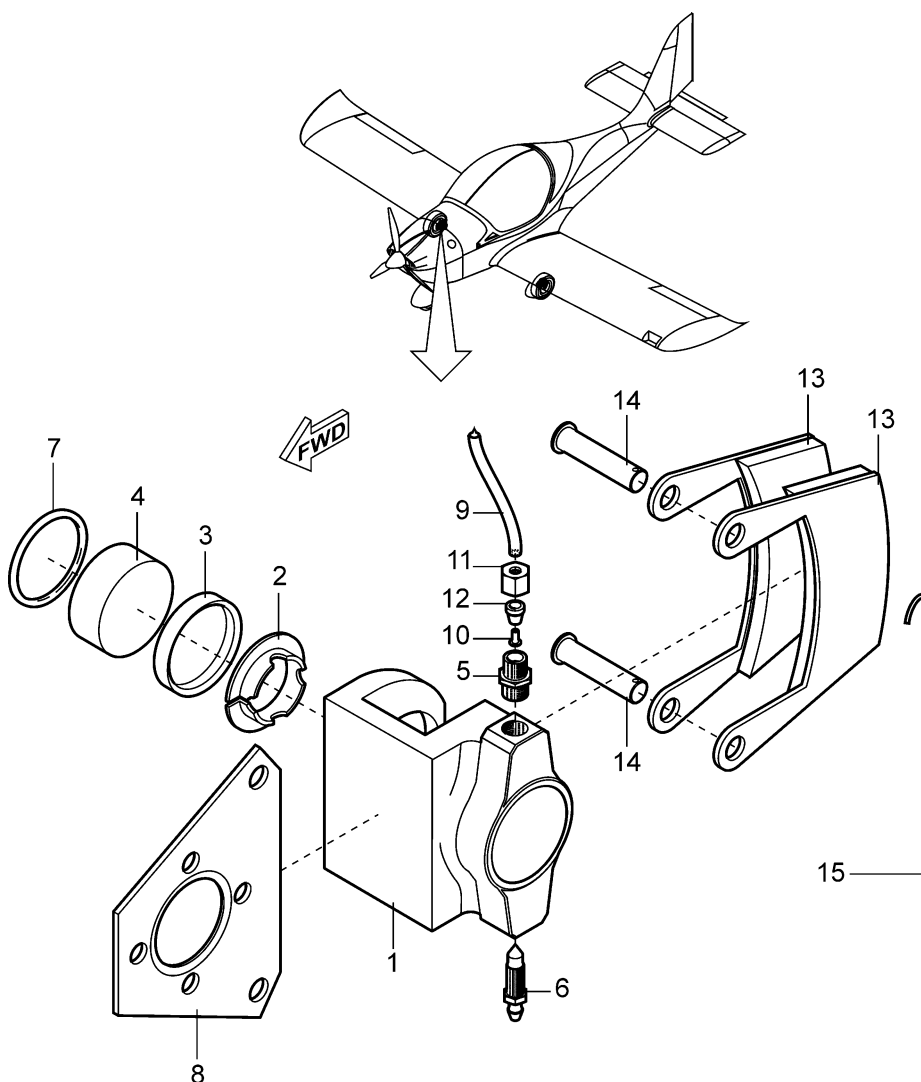

Fig. 1 – S5 10-05 01/02 brake
- 1.3.1.5 Disconnect the hose (9, Fig. 1) from the straight hose connection (5) by loosening the nut (11). Blind the hose (9).
- 1.3.2.6 Place the brake disc (section 32-41) (doc. No. ERTC022-10-AS) and the brake shoes (13, Fig. 1) into the brake caliper (1).
Legend to Fig. 1